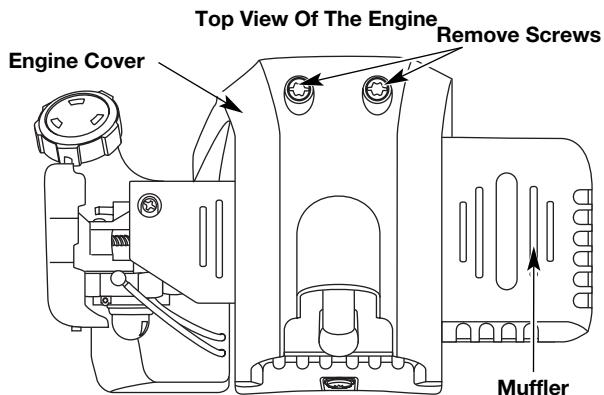

Fig. 31
- Remove the two (2) screws on top of the engine cover with a Flat-head or T-25 Torx screwdriver (Fig. 31).
- Remove the engine cover (Fig. 31).
- Reinstall the muffler cover. Slip the rear tab on the muffler cover into the engine cover rear slot. Then slide the remaining slots into the tabs until they snap into place (Fig. 31).